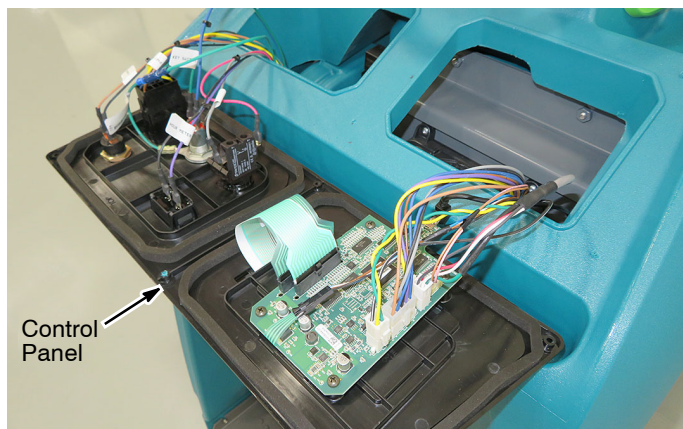

Fig. 13
8. Remove the six mounting screws from the control panel and carefully position the panel as shown (Figure 13).